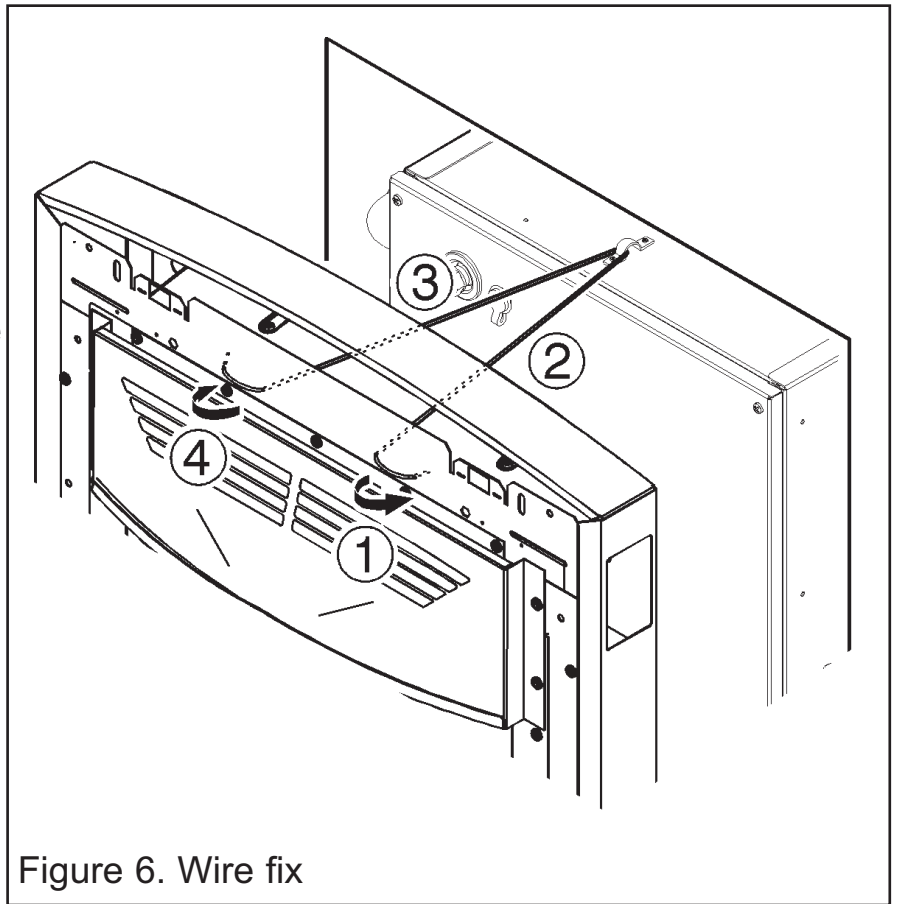

Figure 6. Wire fix
6. At the top of the firefront there are four small holes, two each side of the firefront. From the front of the firefront, thread about 50mm of the steel wire into the outside small hole on the right side of the firefront (See point 1 - figure 6).
7. Thread the other end of the wire through the remaining small hole to the left. Continue to push the wire through this hole until there is only a small loop of wire at the front of the firefront (See point 2 - figure 6).
This will secure the steel wire. Take the long piece and thread this through the bracket located at the top centre of the boiler (See figure 6).
9. From the back of the firefront thread the long piece of steel wire through the inner small hole on the left hand side of the firefront (See figure 6).
10. Locate the firefront in the fireplace opening, then from the front of the firefront, gently pull the steel wire on the right hand side to gather up the excess until the firefront is secure. Thread the wire through the remaining small hole to lock the wire and firefront in place (See point 4 - figure 6).